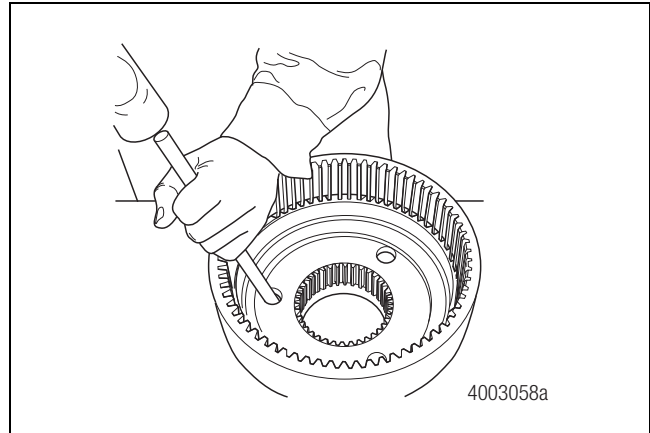

Figure 3.22
4. Remove the bearing cone from the ring gear hub with a hammer and brass drift. Alternately insert the drift through the three locating holes to drive the bearing from the ring gear hub. Thoroughly clean any bearing retaining compound, if present. Figure 3.22.